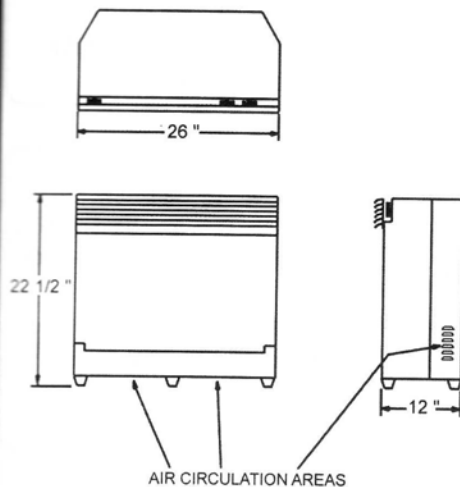

FIGURE 1
•The dimensions of the Fireplace Insert are 26" wide (66cm) X 22 1/2" high (57.2cm) X 12" deep (30.5cm). (FIGURE 1) You may want to leave a clearance around the insert of 1/4" (0.6cm) to ease installation.
•Clearance for air circulation beneath the fireplace insert is provided by three rubber feet (FIGURE 1). DO NOT INSTALL THE FIREPLACE INSERT DIRECTLY ON CARPET OR SIMILAR SURFACES WHICH MAY RESTRICT AIR CIRCULATION. If installing the fireplace in a carpeted area, place a one-piece, solid, flat surface under the fireplace insert. Ensure that all three of the insert's feet rest securely on this surface.